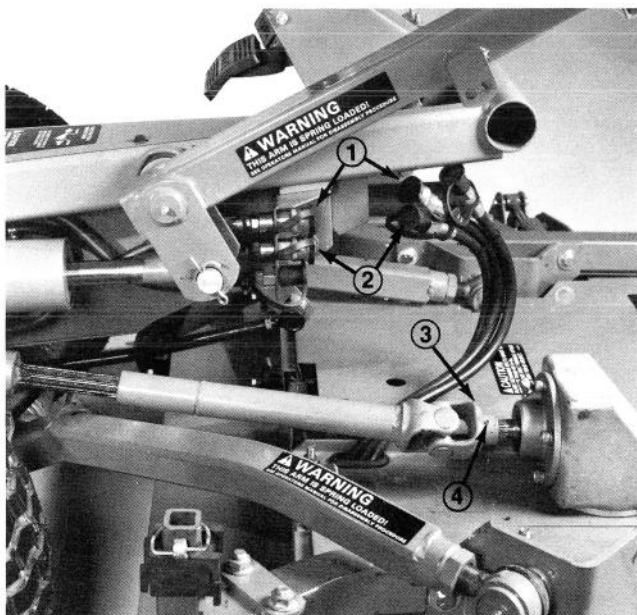

Figure 28
2. Disconnect three hydraulic lines at mounting bracket, located next to traction pedal, using quick disconnects (Fig. 28). Immediately put attached rubber plugs in disconnects on both the traction unit and deck hoses (Fig. 28).